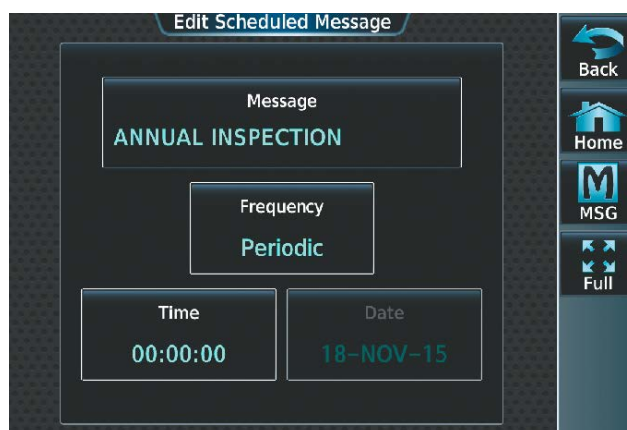

Figure 8-102 Touch Frequency Button
- 6) Touch the **Frequency** Button as shown in Figure 8-102.